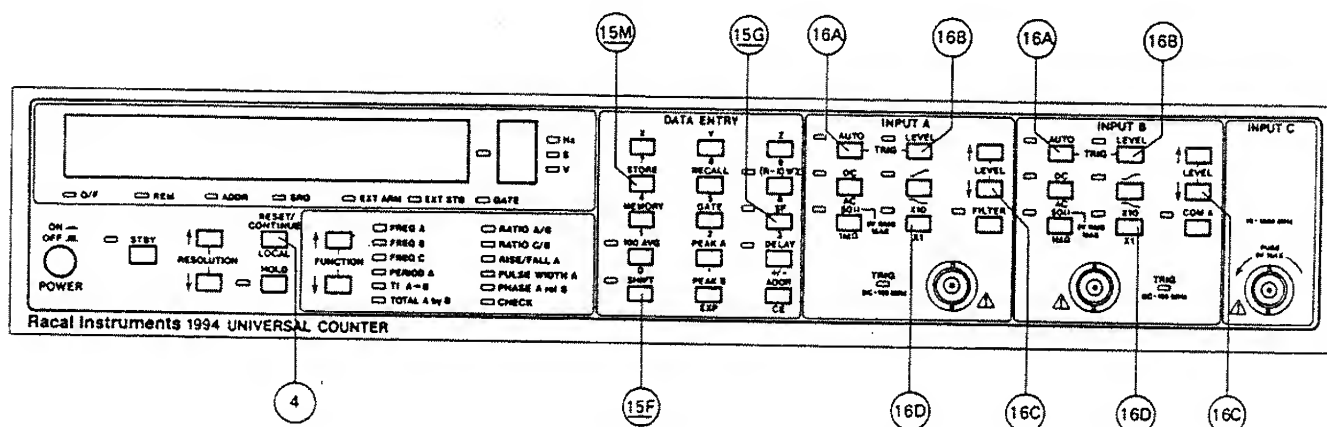

Figure 3.1 - Trigger Level Setting
3.4.2.1.1 Refer to Figure 3.1 for this subsection. The 1994 provides both manual and automatic (including single-shot) trigger setting for Inputs A and B. Trigger level readout is available on the main display.